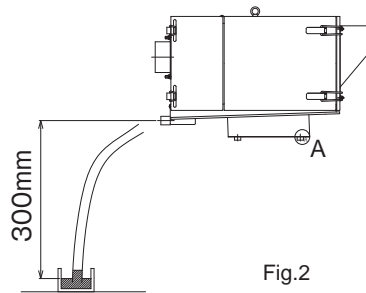

Fig.2
- ④ The liquid seal surface should be 300mm or farther below the drain pipe in order to allow drain pipe discharge. An optional floor stand with a height of 600mm is available (see Fig.2) (For drain piping details, see page 8, item (3) "Drain tube piping").
- ⑤ Leave a 500mm margin of space at all sides of the product to permit filter replacements, maintenance, and inspections.